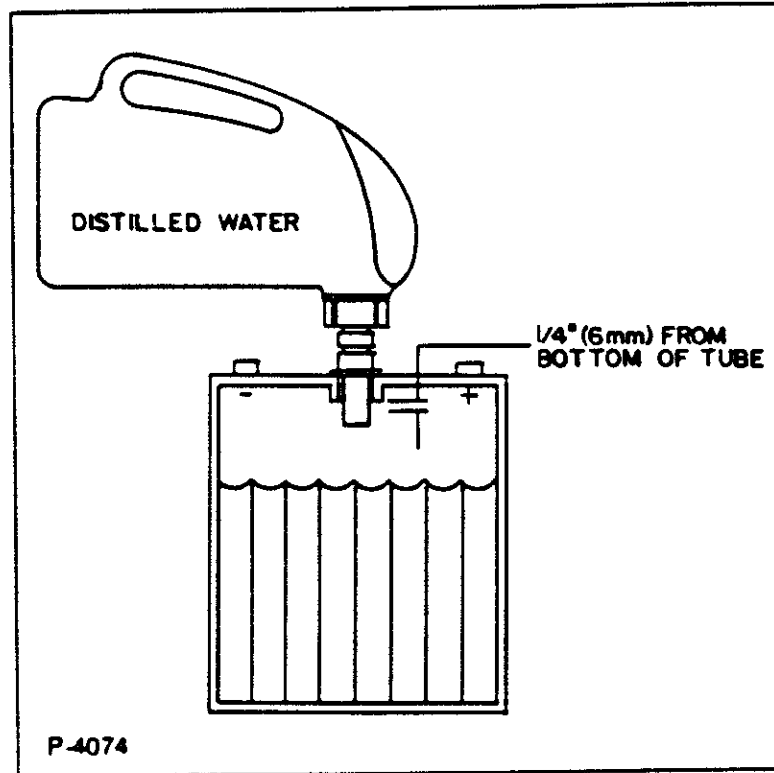

Figure 16
1. Keep the electrolyte at the correct level. The correct level is within .25 inch (0.6 cm) of the bottom of the tube in each cell. Check the level of the electrolyte every time you charge the batteries. See figure 16. If electrolyte is required, add distilled water.